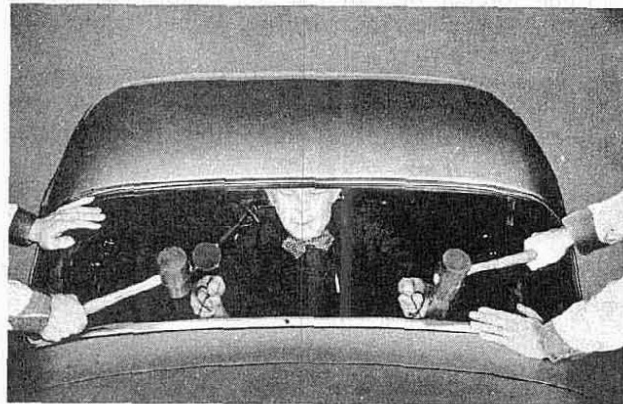

FIG. 44
Next, lay a bead of sealer around the mounting flange, extra heavy on the sides and up the corners, and smooth it out with a putty knife as shown in Fig. 42. With two men handling the glass and one man inside the car, position the assembly in the body opening taking care to center it within the opening (See Fig. 42). When the assembly is centered, remove the vertical tie cords (1). Slip the lower lip of the weather strip over the body flange and as the man on the inside of the car pulls both ends of the cord simultaneously, tap the glass with soft rubber mallets at the points where the cord leaves the weather seal (see Fig. 44). As the cord is pulled out of the weather strip, it lifts the lip of the weather strip up over the edge of the body flange and striking the glass then securely seats the weather strip on the flange. Begin at the bottom center and work together around the entire opening to the top center position. At each blow, make certain that the lip fits over the body flange. Press firmly with the heel of the hand on the glass just